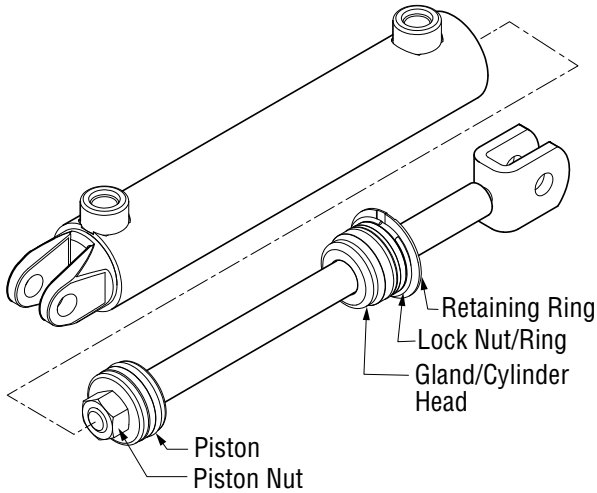

Figure 4-3, Rod Assembly
6. Clamp the rod assembly in a soft jawed vise on the wrench flats, not on the rod surface. If the rod does not have wrench flats use two pieces of wood on both sides of the rod to prevent scaring. (Figure 4-3)